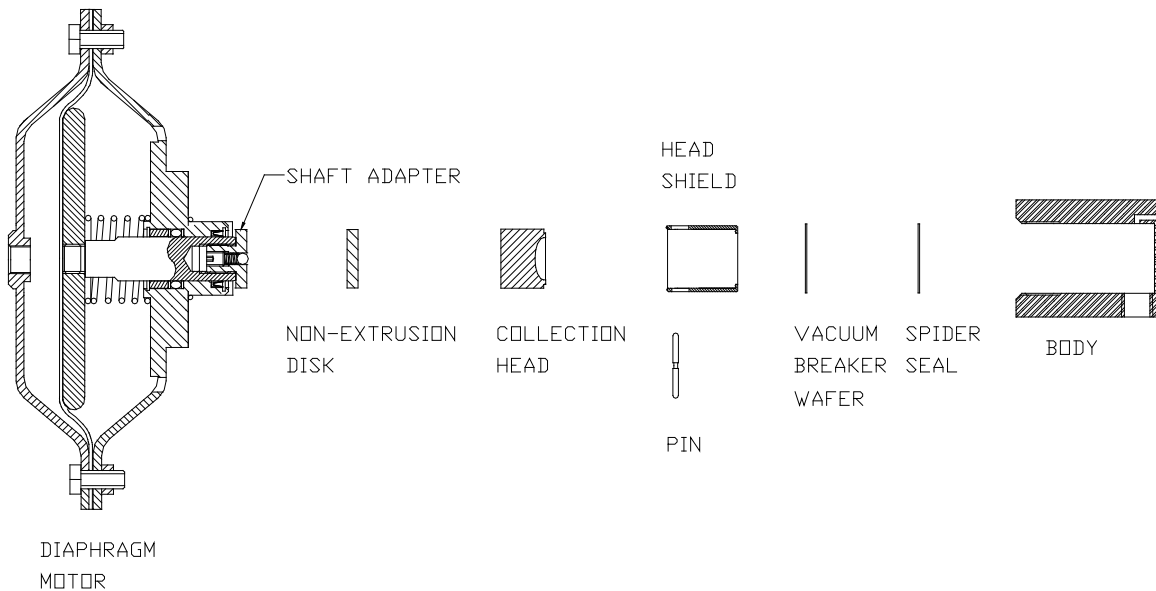

FIGURE 6
3.2.5 To replace the collection head #15, push the holding pin #13 out (it is held in place by spring tension) and slip the shield #16 off the shield/shaft adapter #10. Push the collection head out of the shield. The non-extrusion disc #14 will come out first and does not need to be replaced if it is in good condition (see Figure 6).